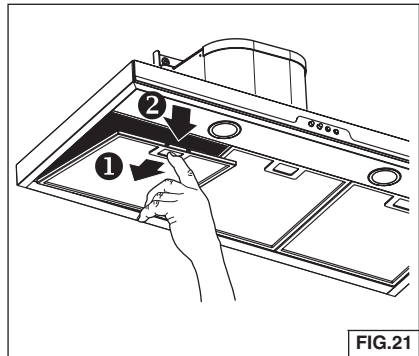

FIG.21
1. To remove the GREASE filter, push in latch tab to disengage the filter from the hood. Tilt the filter downward and remove. Fig. 21.
2. To install the GREASE filter, align rear filter tabs with slots in the hood. Push latch tab in, push filter into position and release. Make sure the filter is securely engaged after installation. Fig. 21.